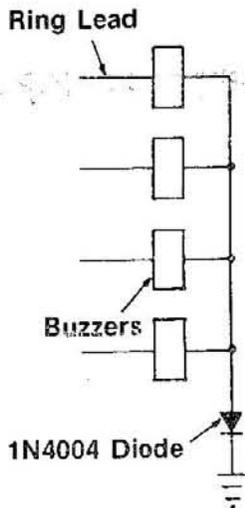

Fig. 3 - Use of Low Voltage Buzzers for Intercom Signaling.
- (1) If Low Voltage Buzzers are going to be used for signaling, all buzzer leads will have to be returned to GRD through one common diode such as 1N4004 in manner shown in fig. 3.
- (2) Diode is not required for high impedance Buzzers (110V 30HZ ringing voltage) or for ringers.